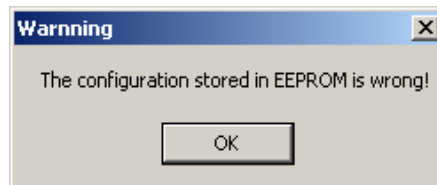

Figure 6-18. "EEPROM Data Error Dialog Box"
**Step 4:** After read the parameters stored in I-7242D, these parameters will be verified that they are correct or not. If any error has been detected, the warning message will be pop-up as figure 6-18.